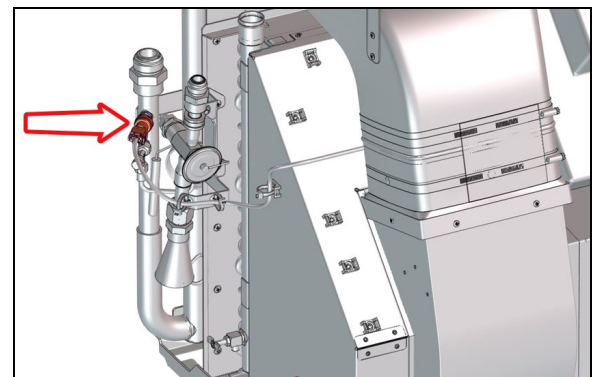

FIGURE 98: LOW-PRESSURE TRANSDUCER
6. Disconnect the low-pressure transducer (located next to the thermal expansion valve on big HVAC system, Figure 98). The multiplex system will establish a default value of 34 psig and this will allow pulling down the A/C compressor to 0 psig. **Note: the low-pressure transducer must be reconnected after the pumping down operation is complete.**